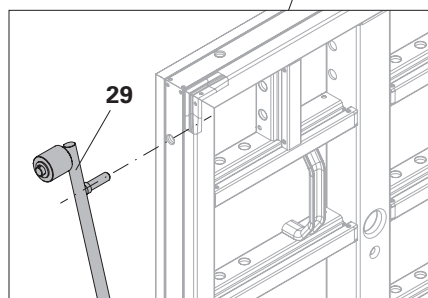

Fig. A4.03a
- remove Panels MX-2 (5) from the concrete. (Fig. A4.03a)